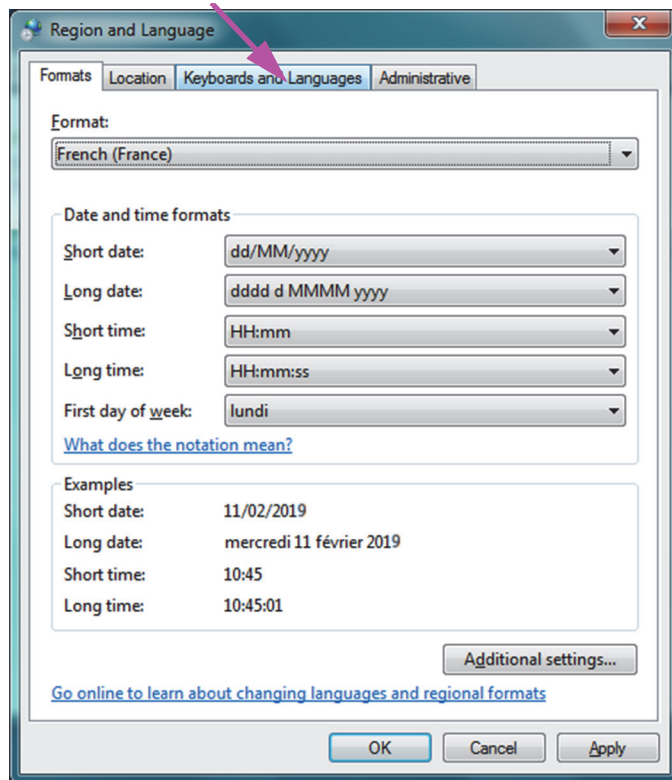

Figure C-2. Region and Language Drop-Down Window
1. On the Region and Languages screen, click the **Keyboards and Languages** tab (see Figure C-2).